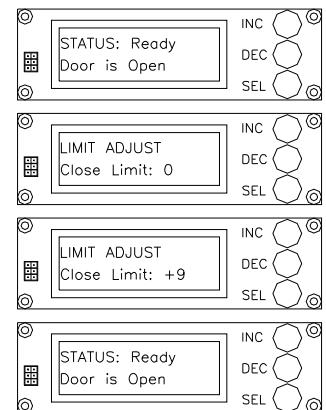

FIG. F4
- c. **Adjust Closing limit** using the Display and the three Buttons provided (Figure F4).